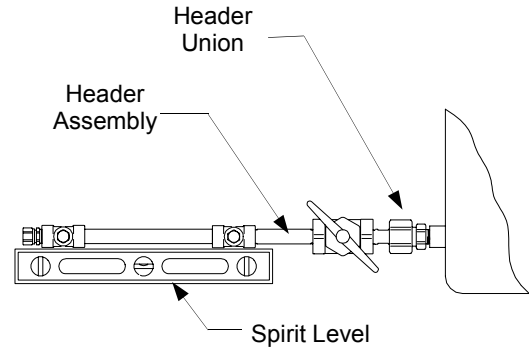

Figure 5
1. Attach the left header to the union on the left side of the manifold control unit. Using a level, mark the placement of mounting brackets while keeping the header on a horizontal plane. (Figure 5)